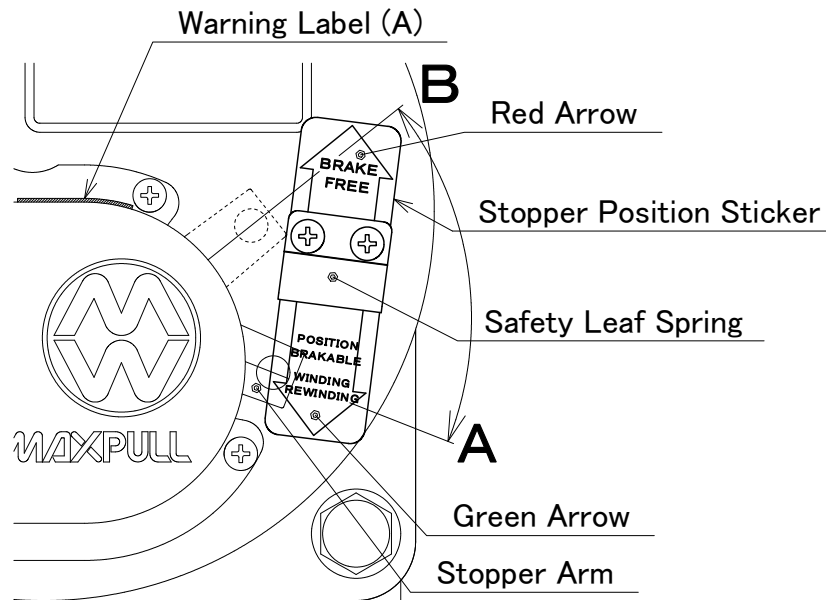

Figure 9 Stopper Arm Position
- Make sure that the stopper arm is set to the "A" position of the "lifting" position as shown in the Figure 9. Set the position of the stopper arm correctly using this manual and the sticker affixed on the winch. (Exclude the Stopper Armless Type SI, SIC and NSIL)
Make sure that the stopper arm is set to the "A" position of green arrow as shown in the Figure 9. If the stopper arm is at position "B" of red arrow, the brake is not applied. Do not move the stopper arm from the position "A" while the winch is under load. Do not touch the stopper arm carelessly when working or under loaded. If the stopper come off when touched the stopper arm, the brake will not work. When checking the operation of the brake, keep the brake position to the "A". The safety spring is to prevent accident to lifting up the stopper arm and no braking.